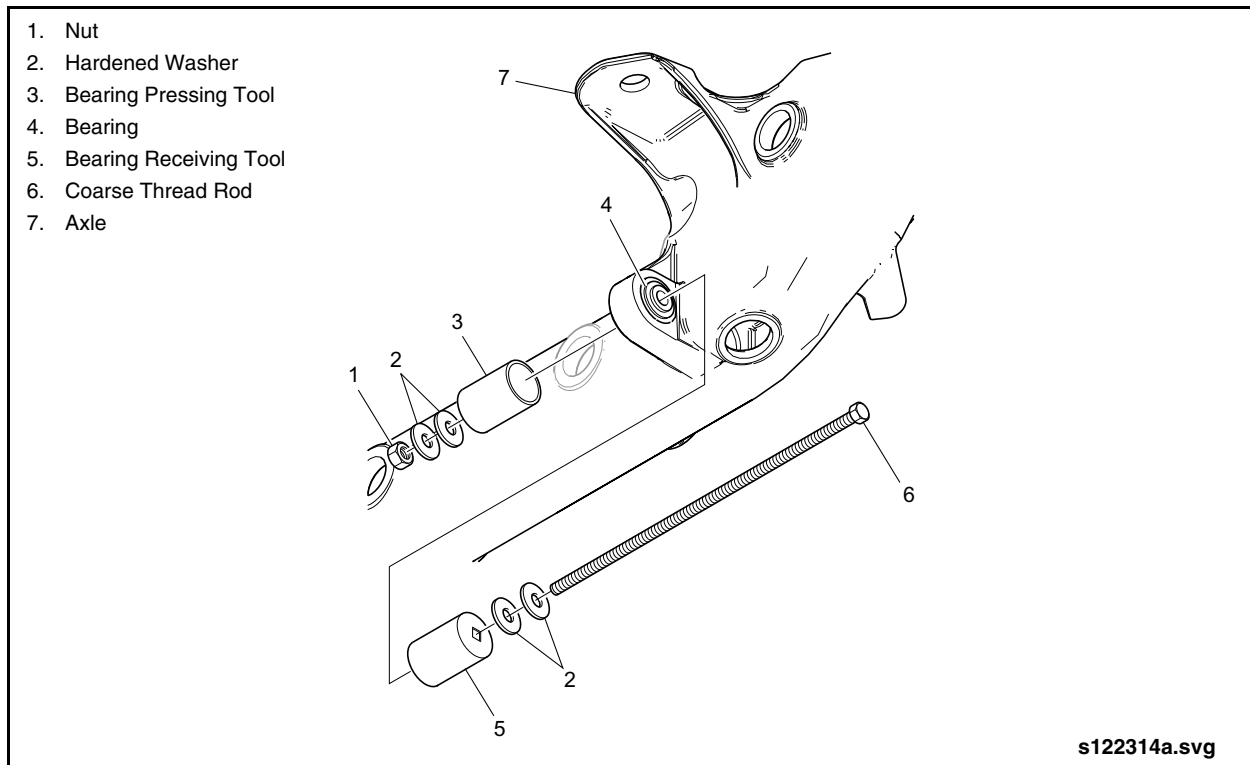

Fig. 3: Axle Bearing Removal
2. Push the worn bearing out with pressing and receiving tools. See "Fig. 3: Axle Bearing Removal" on page 5.